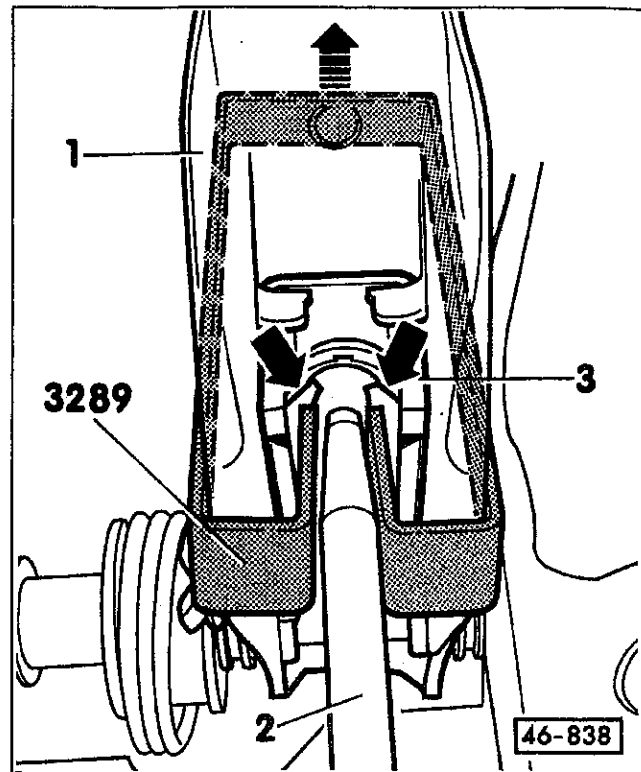

Fig. 1. VW special tool no. 3289 being used to separate brake pedal (1) from brake booster pushrod (2). Ball retaining tabs shown at arrows.
5. Install VW special tool no. 3289 to pedal cluster and pull tool toward rear while holding brake pedal stationary (pedal must not be allowed to move back). See Fig. 1.